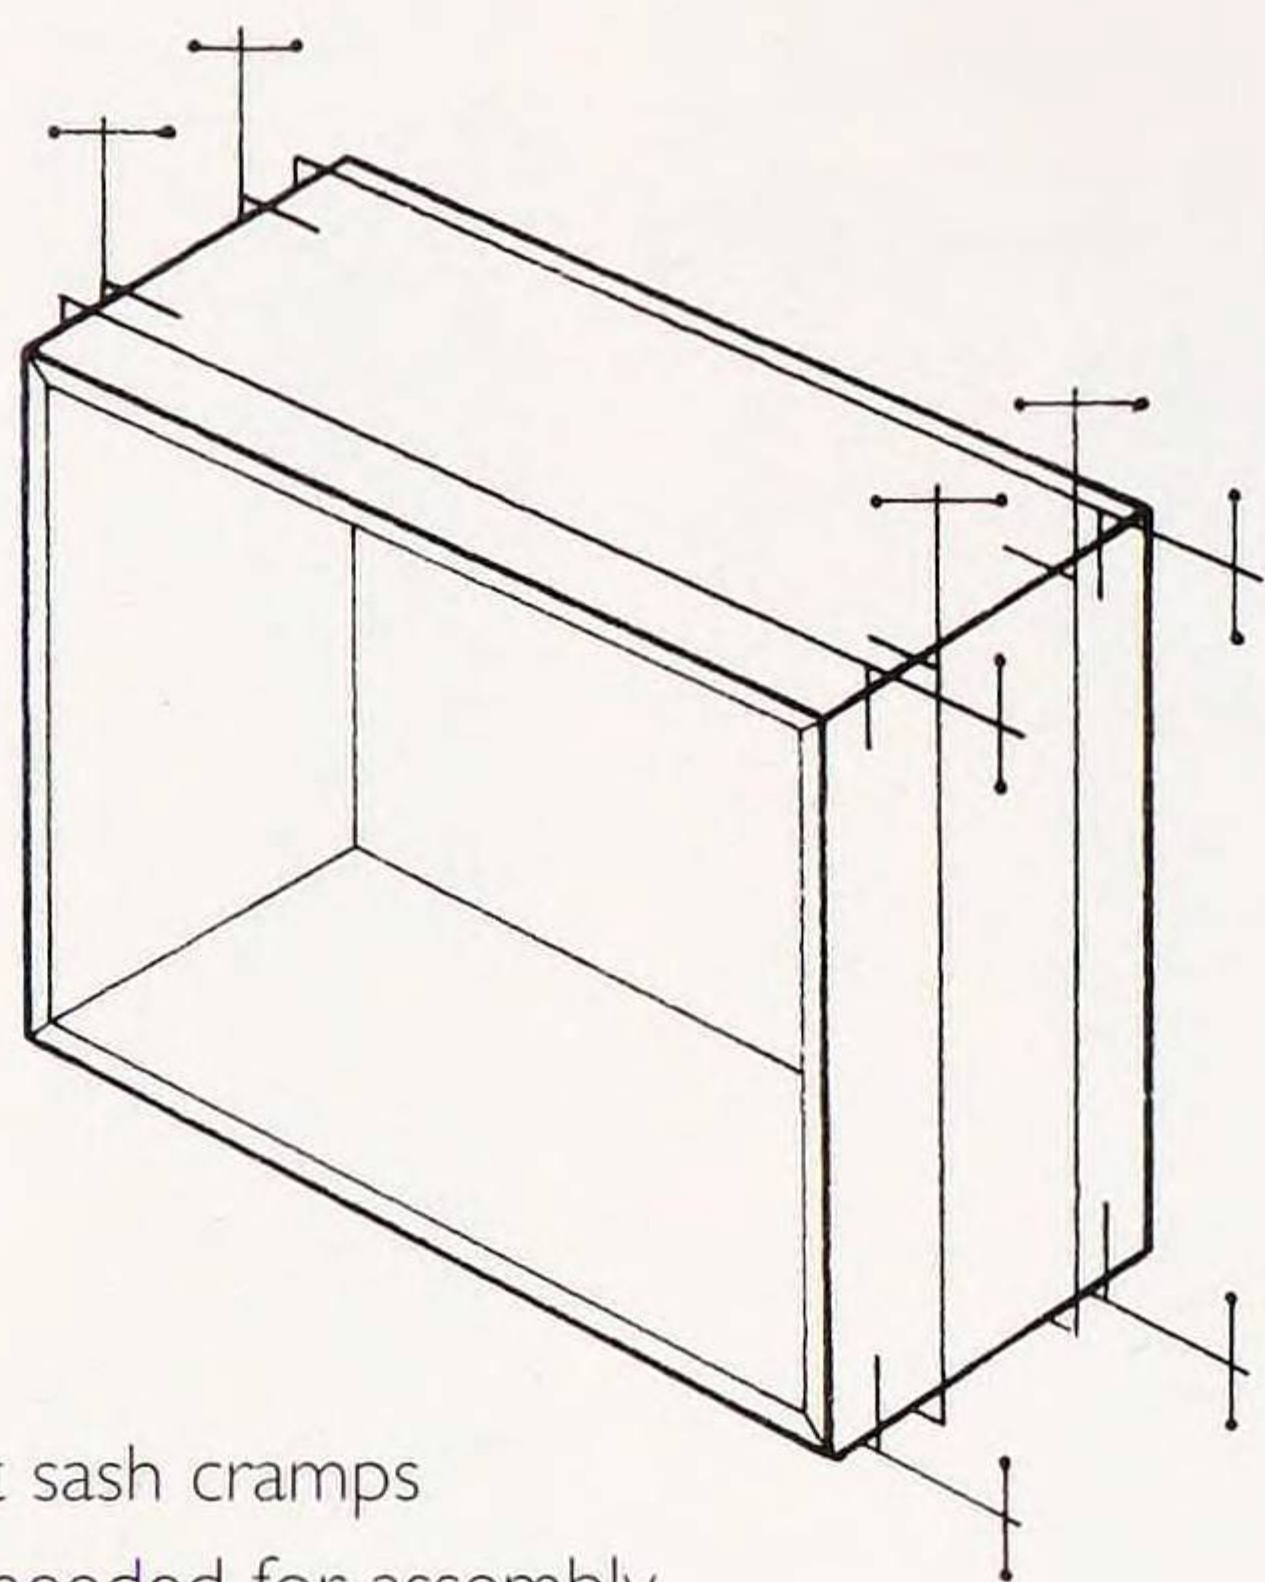

Fig. 3 Eight sash cramps are needed for assembly
5. Assemble the carcass dry to check that the mitres cramp up tightly. If you use sash cramps, you will need eight (Fig. 3). Another method that gives pressure to the joint is to glue some scrap wood to the sides and use G-cramps to close the joint. These are planed off after the final assembly (Fig. 4).